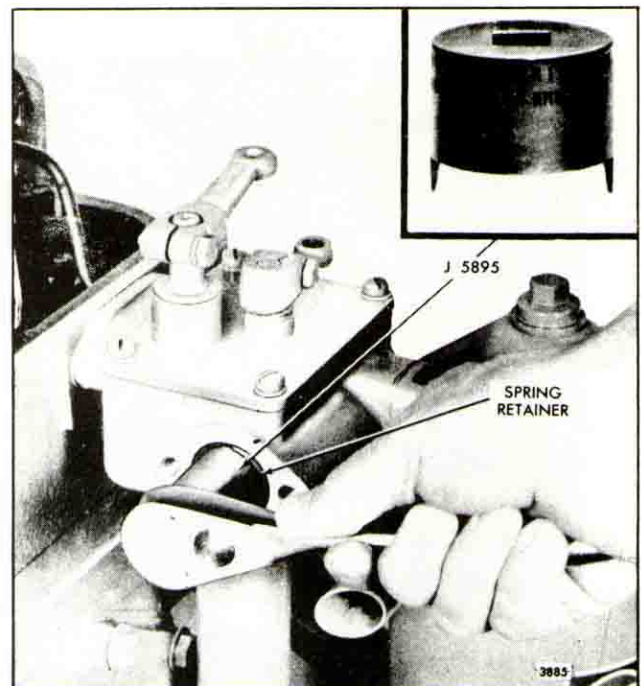

Fig. 12 - Removing or Installing High Speed Spring Retaining Nut
2. Remove the high speed retainer with tool J 5895 as shown in Fig. 12. Withdraw the retainer and high speed spring plunger as an assembly.